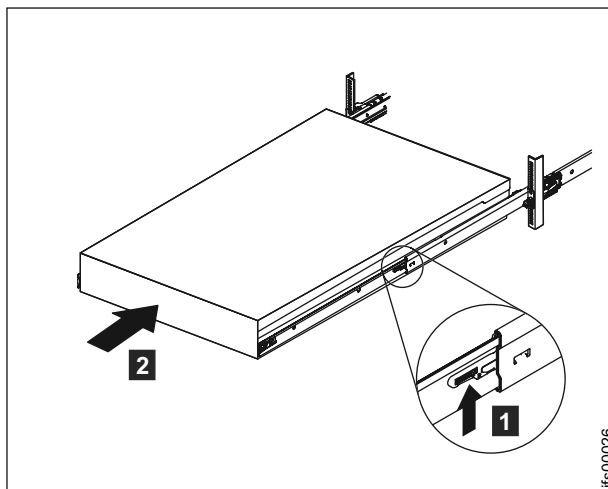

Figure 32. Sliding the file module into the rack.
2. Lift the locking levers **1** on the slide rails and push the file module **2** all the way into the rack until it clicks into place. Refer to Figure 32.